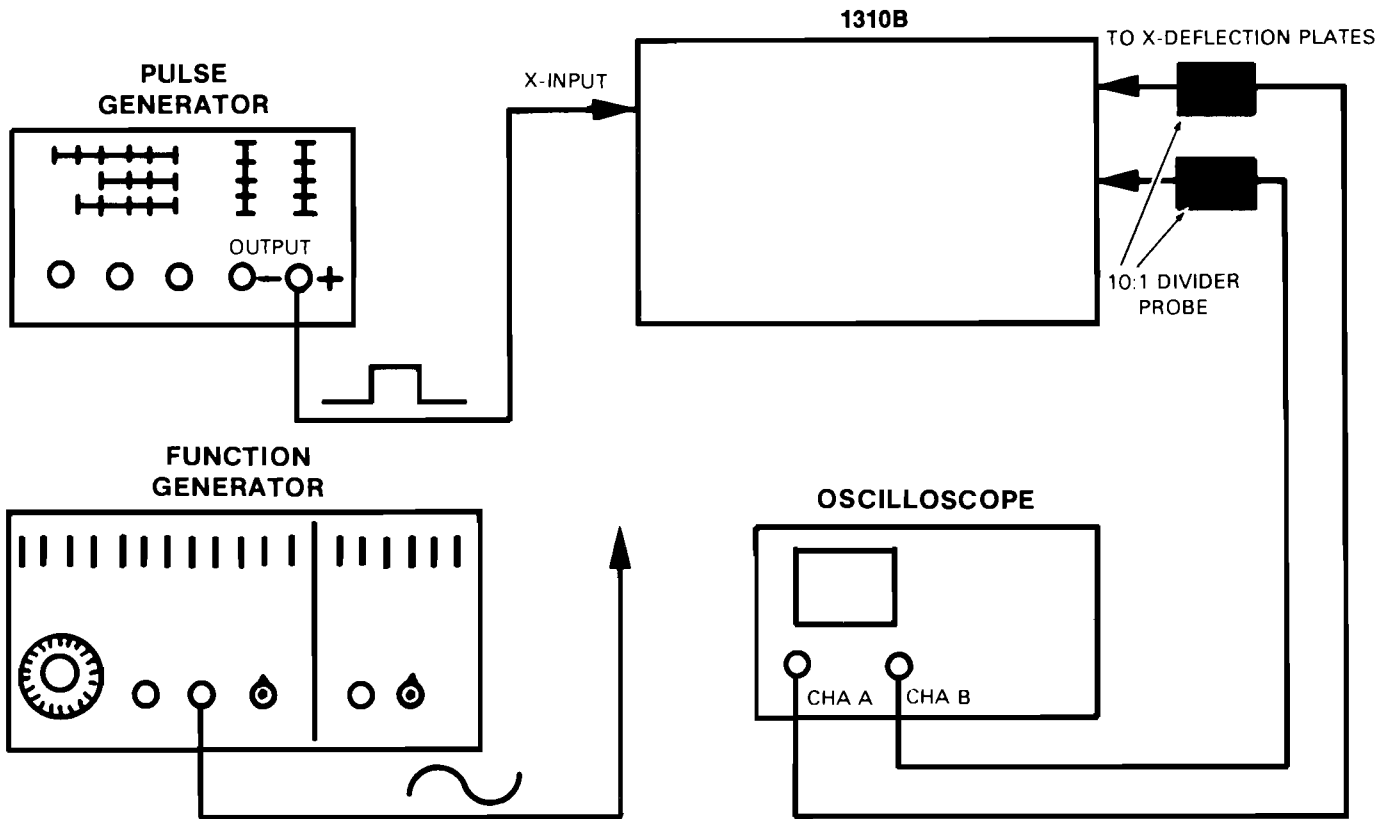

Figure 5-8. X-amplifier Pulse Response and Bandwidth Adjustment Setup
- b. Connect equipment as shown in figure 5-8.